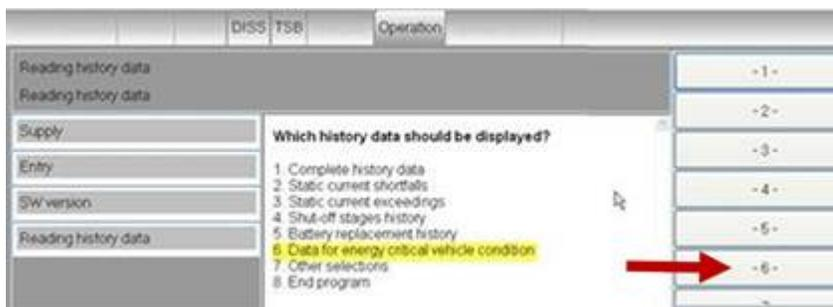

Figure 5. Select -6-.
- Select **6. Data for energy critical vehicle condition** (Figure 5).